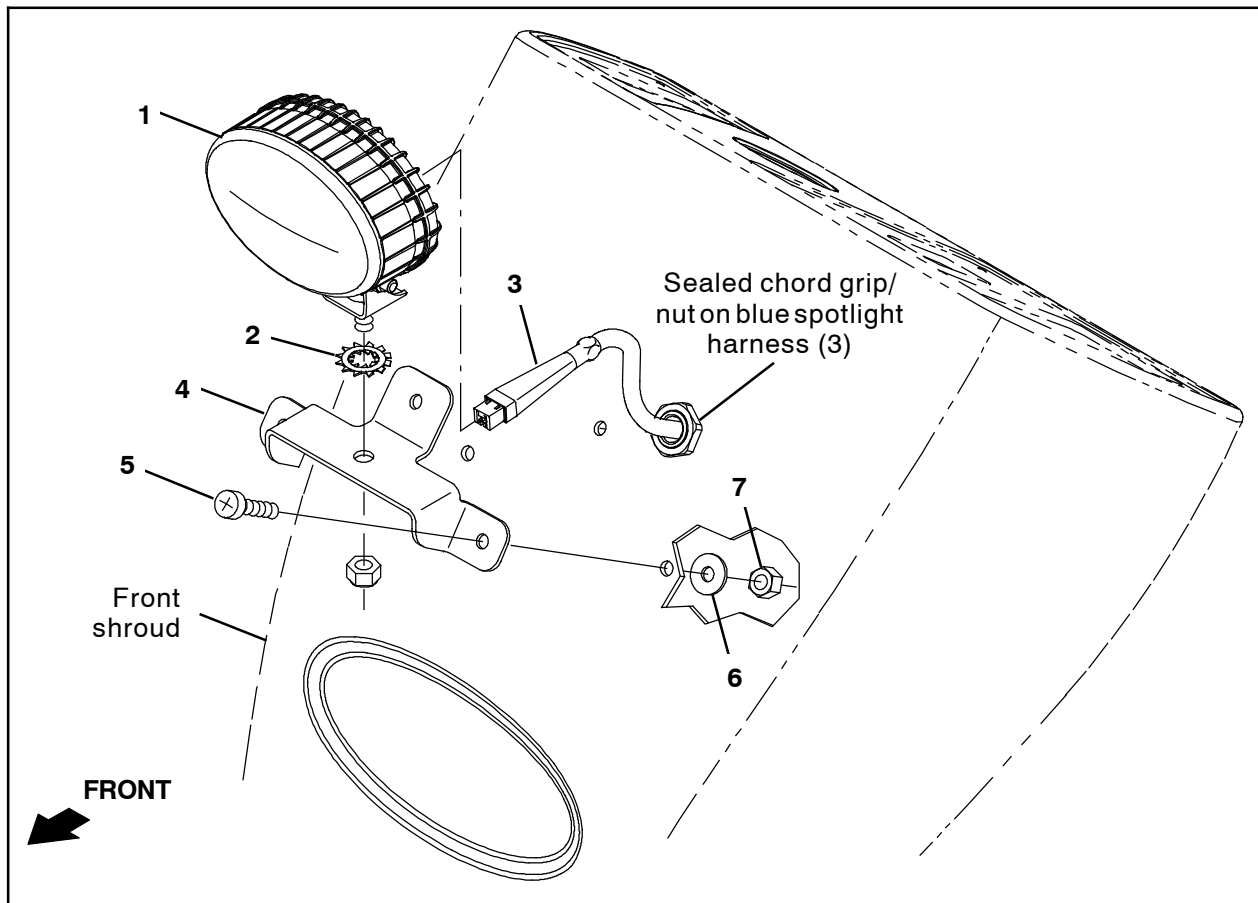

FIG. 4
5. Use three M8 pan screws (5), three M8 fender washers (6), and three M8 hex nuts (7) to install the front cover spotlight mounting bracket (4) onto the front shroud. (Fig. 4)
6. Remove the hex nut included with one blue LED spotlight (1) from the light. (Fig. 4)
7. Use the hex nut removed from the blue LED spotlight (1) in the previous step and a lock washer (2) to install the blue LED spotlight onto the front cover spotlight mounting bracket (4). (Fig. 4)
9. Route blue spotlight harness (3) the connector to be connected to the blue LED spotlight (1) installed on the front shroud through the 0.886 in. (22.5 mm) hole previously drilled into the front shroud. (Fig. 4)
10. Connect the blue spotlight harness (3) to the blue LED spotlight (1) installed on the front shroud. (Fig. 4/Fig. 5)
11. Use the sealed chord grip/nut on the blue spotlight harness (3) to secure the harness to the front shroud. (Fig. 4)